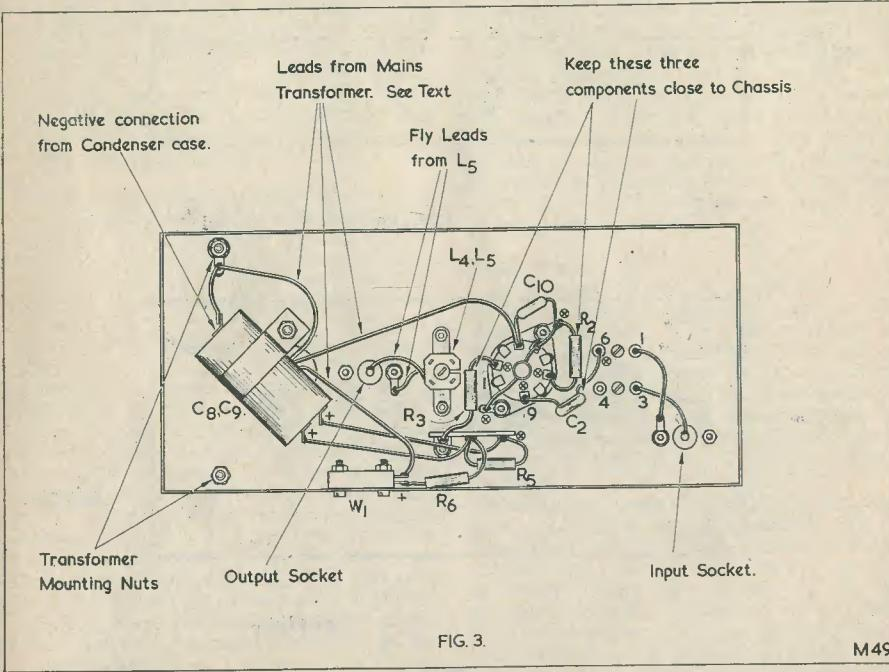

FIG. 3.
The main components may now be mounted, those taking up the positions illustrated in Fig. 3. This diagram does not show the mains transformer, which is mounted above the chassis. The position of the mains transformer is, however, readily evident from the photographs accompanying this article. The electrolytic condenser, C8-C9, is mounted on its side, being held in place with
*Fig. 3. The positions taken up by the main components, together with the initial stage in wiring. The three leads from the mains transformer are discussed in the text*
Fig. 3 also illustrates the power supply wiring, plus the first stage of r.f. wiring. It should be noted that it is the 16  $\mu$ F section
chassis tag which provides the earth connection for the electrolytic condenser case. This lead connects, above the chassis, to one side of the heater secondary and one side of the h.t. secondary. The second lead passing through the large hole connects, above chassis, to the remaining h.t. secondary tag and, below chassis, to the rectifier. The third lead connects the remaining tag of the heater secondary to pin 4 of the valveholder. There is no mains wiring below the chassis. All points marked "X" in Fig. 3 should be left unsoldered at this stage, as further connections are made to them later.